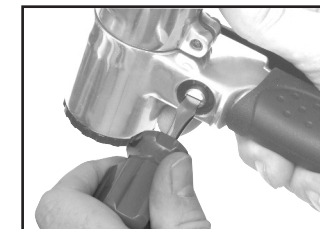

Fig. 12
6. Adjust the power regulator on the underneath of the Mini Belt Sander by turning it in either direction (See fig. 12).